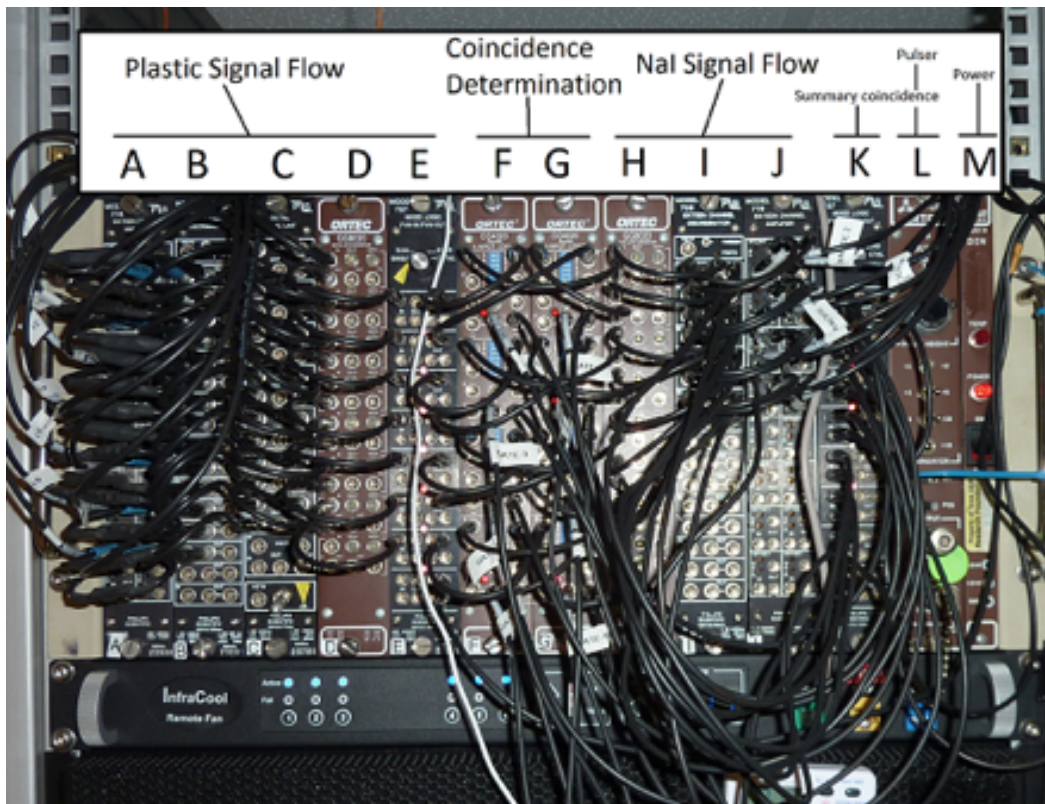
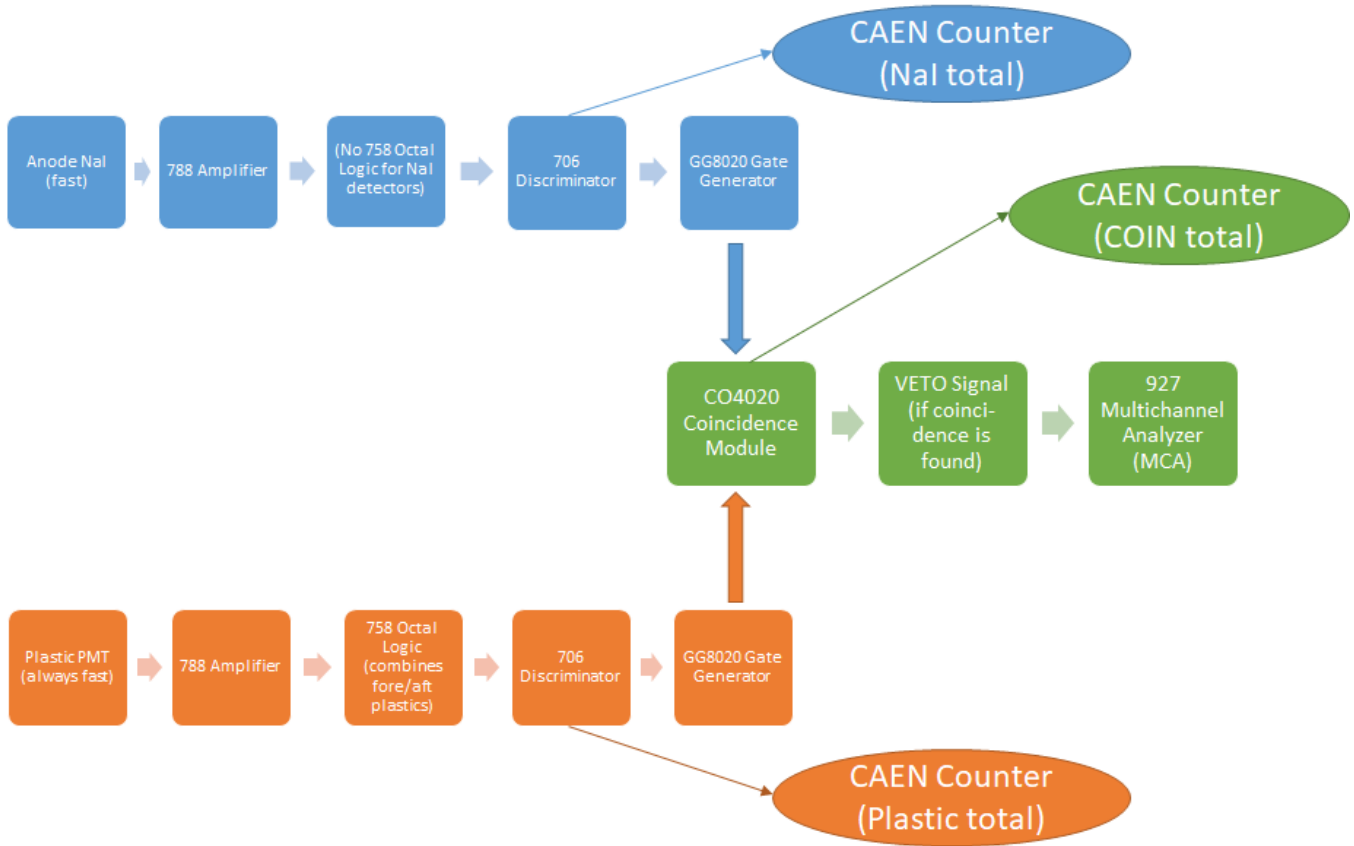

Figure 5. Coincidence Logic NIM Bin
Figure 6. Coincidence Logic Flow Diagram (simplified)
The coincidence logic NIM bin (left side) consists of the plastic signal flow units (Figure 5, A through E), coincidence determination units (F and G), NaI signal flow units (H through J), a summary coincidence unit (K), and an ORTEC 480 pulser. A cartoon diagram of the electronics logic is shown below in Figure 6, and for a detailed description of the electronics bin, please see the NGR logger academy Power Point presentation.